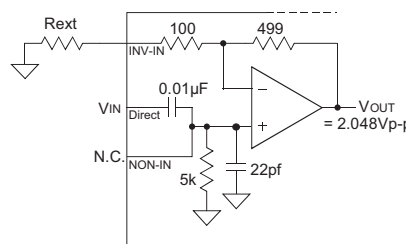
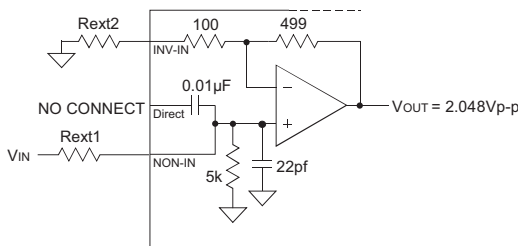
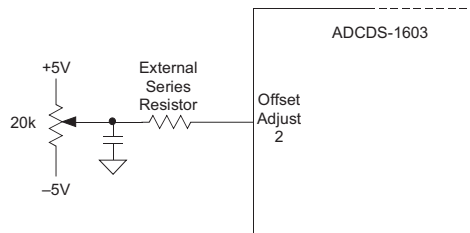

Figure 2b. Direct Mode
Figure 2d. Non-inverting Mode
Figure 3. Offset Adjustment Circuit
3. Offset adjustment resistor (Figure 3), Rext (Figure 2b, 2c, & 2f), and Rext₁ & Rext₂ (Figure 2d) should be placed as close to the ADCDS-1603 as possible.
When applying inputs that are less than 2.048Vp-p, a coarse gain adjustment (applying an external resistor to Inverting Input) must be performed to ensure that the full scale pixel data input signal (saturated signal) produces 2.048Vp-p signal at the input-amplifier's output (V_{OUT}) (See figure 2b & 2c).
The ADCDS-1603 achieves its specified accuracies without the need for external calibration. If required, the device's small initial offset error can be reduced to zero using the OFFSET ADJUST feature (See figure 3). For fine gain adjustment model, contact the factory.
Figure 2b. describes the configuration for applications using a pixel data input signal with an amplitude greater than 0.342Vp-p and less than 2.048Vp-p. Using a single external series resistor, the coarse gain of the ADCDS-1603 can be set. The coarse gain of the input amplifier can be determined from the following equation: V_{OUT} = 2.048Vp-p = V_{IN}* (1+(499/(100+Rext))) (all internal resistors having a 0.1% tolerance).
Figure 2d. describes the typical configuration for applications using a pixel data input signal whose amplitude is greater than 2.048Vp-p. Using a single external series resistor (R_{ext} 1) in conjunction with the internal 5K (1%) resistor to ground, an attenuation of the input signal can be achieved. The coarse gain of this circuit can be determined from the following equation:
Manual offset adjustment for the ADCDS-1603 can be accomplished using the adjustment circuit shown in Figure 3. A software controlled D/A converter can be substituted for the 20KΩ potentiometer. The offset adjustment feature allows the user to adjust the Offset/Dark Current level of the ADCDS-1603 until the output bits are 0000 0000 0000 0000 and the LSB flickers between 0 and 1. The ADCDS-1603's offset adjustment is dependent on the value of the external series resistor used in the offset adjust circuit (Figure 3) and the gain of the input-amplifier.